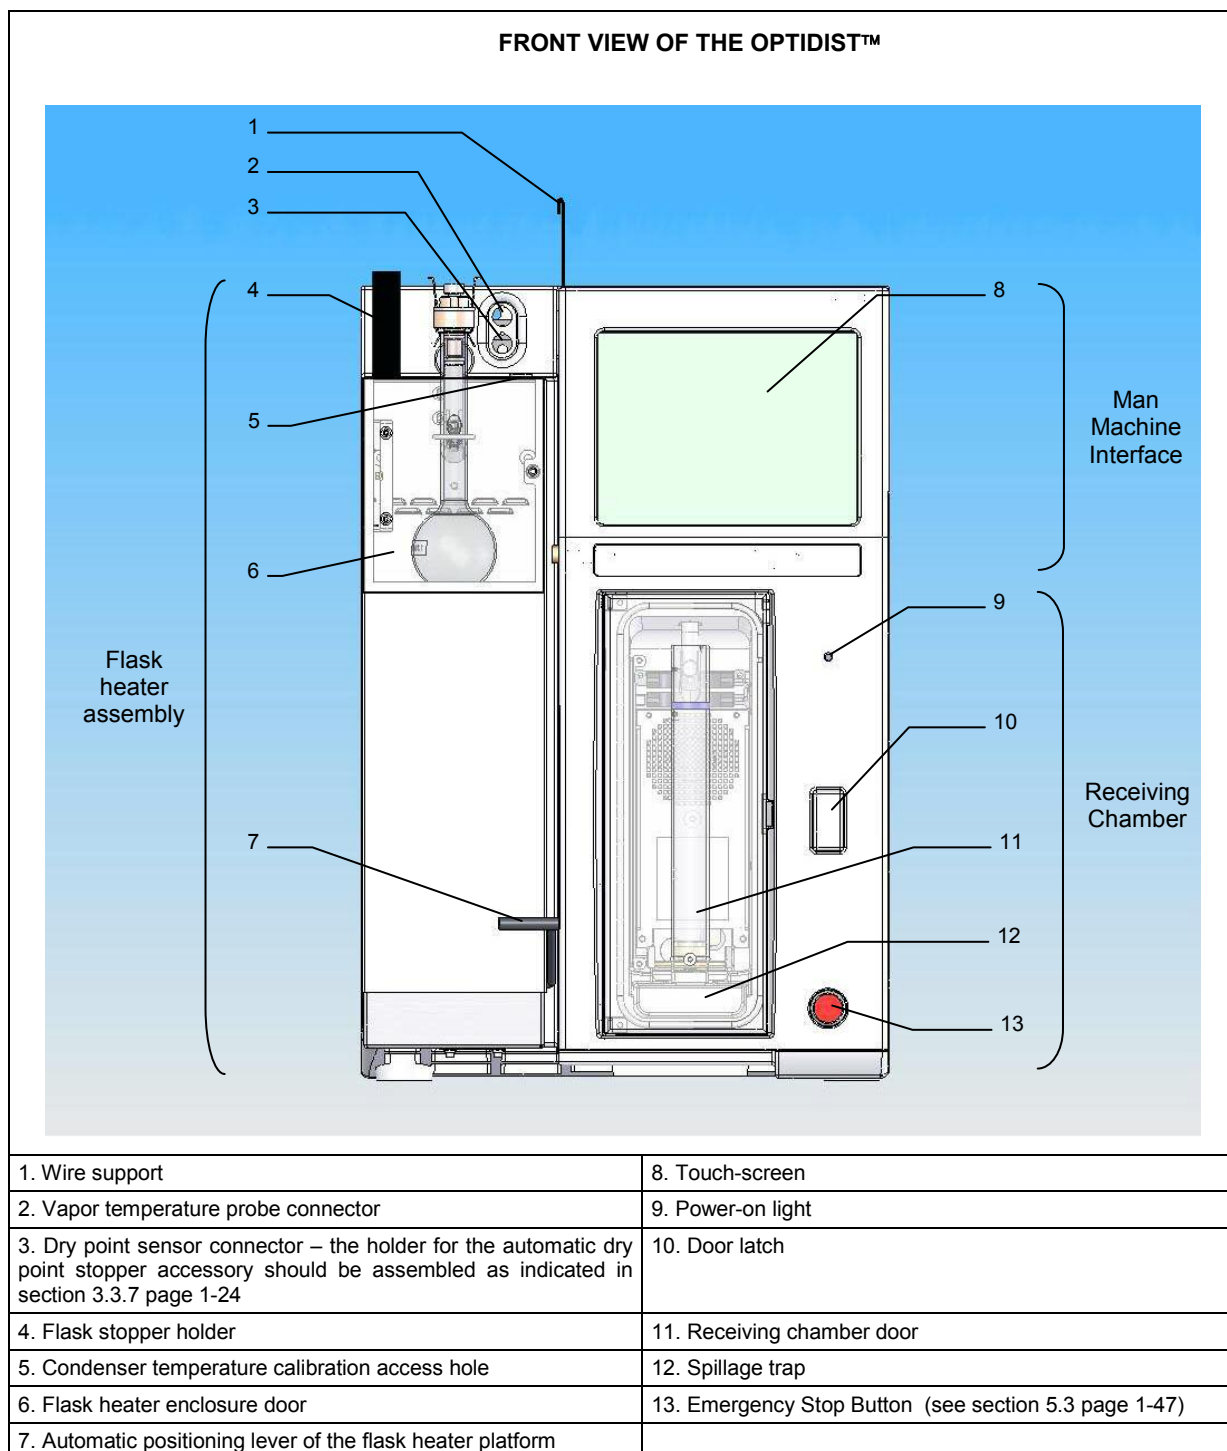

Figure 1-2: AD86 5G2 – Front view
Install the least wide part of the flask stopper holder (4) in the hole provided for this on the top of the analyzer (see Figure 1-2 page 1-29).
Connect the Pt100 vapor probe to the connector (2) on the front of the analyzer (see Figure 1-2 page 1-29).
The small green indicator lamp (9) on front side of the analyzer (see Figure 1-2 page 1-29) lights up indicating the analyzer is powered on and the following operations are performed:
Insert the probe wiring through the wire support atop the flask heater assembly and install the vapor temperature probe terminal plug into the connector socket (2) located on the top of the analyzer above the flask heater platform (see Figure 1-2 page 1-29). When not in use the temperature probe should be placed in the probe holder atop the unit (4).
The condenser calibration opening (1), (Figure 1-2 page 1-29), to the right of the probe holder on the top of the analyzer is for insertion of a thermometer for control of the temperature measurement circuit of the condenser bath temperature probe (see section 1.3.4 page 4-100).